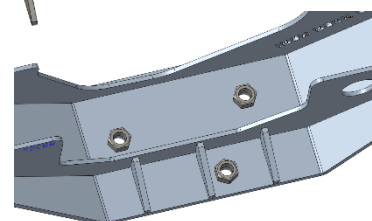

Fig.4
25. Weld 3 M14 nuts to bottom of center truss. Weld 2 of 6 flats on each nut (Figure 4).